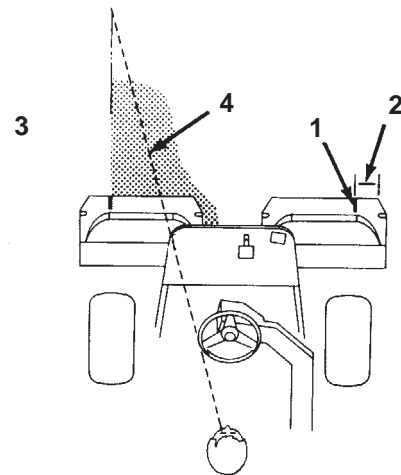

Figure 30
3. Overlap a minimal amount with the previous cut on return passes. To assist in maintaining a straight line across the green and to keep the machine an equal distance from the edge of the previous cut, establish an imaginary sight line approximately 6 to 10 ft. (1.8 to 3 m) ahead of the machine to the edge of the uncut portion of the green (Fig. 30). Some find it useful to include the outer edge of the steering wheel as part of the sight line; i.e. keep the steering wheel edge aligned with a point that is always kept the same distance away from the front of the machine.